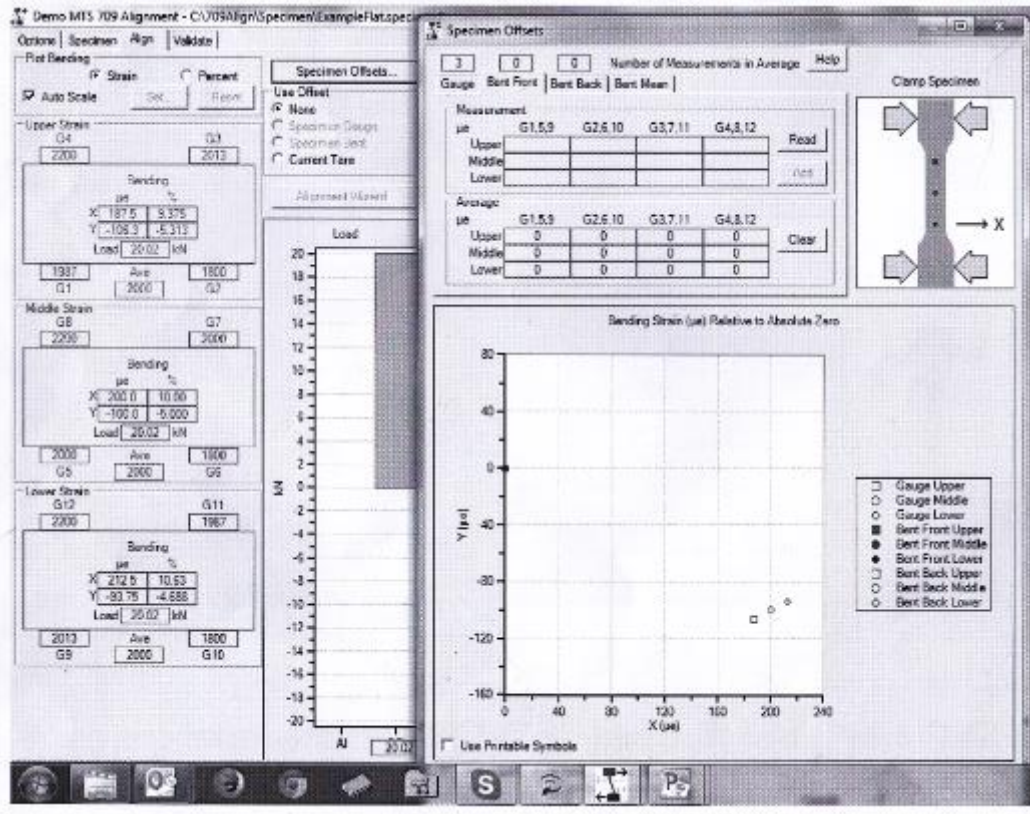

Figure 5: Bend Front Tab Procedure
- j) Click on Bend Front tab as shown in Figure 5. Install the alignment specimen.
- k) Click on read then add. Open and close lower grip only. Click read then add. Open and close lower grip again. Click read then add. Repeat it another two (2) times.